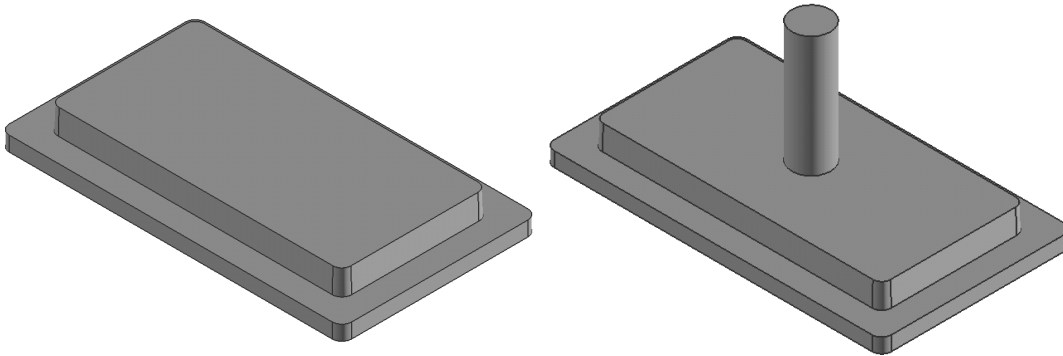

Figure 8-41 Model after creating the pad feature Figure 8-42 Model after creating the boss feature
- Create the rectangular pad using the **Pad** tool, refer to Figure 8-41.
8. Choose the **OK** button twice and the **Cancel** button once. The resulting rectangular pad feature is shown in Figure 8-41.